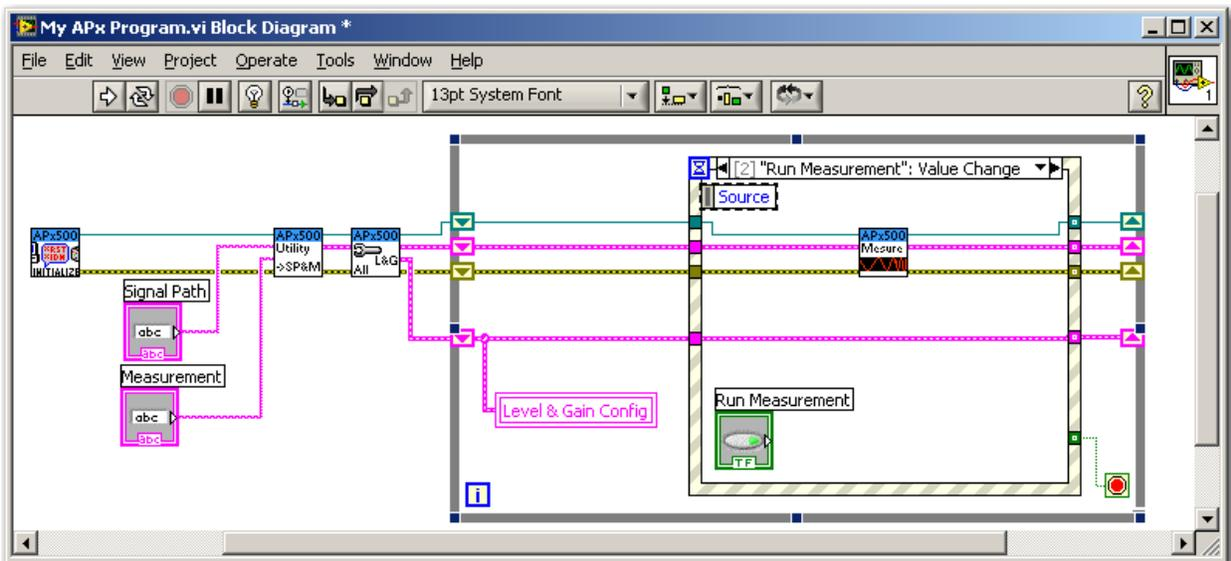

Figure 41
- Next, we will add the capability to run the Level and gain measurement. Add a Boolean button Control to the front panel and change its label to “Run Measurement”. On the block diagram, add a case to the event structure that handles a value change of this control, and move the control’s terminal inside this case. Finally, add the *Perform Measurement* VI to this case and wire the case as shown in Figure 41.